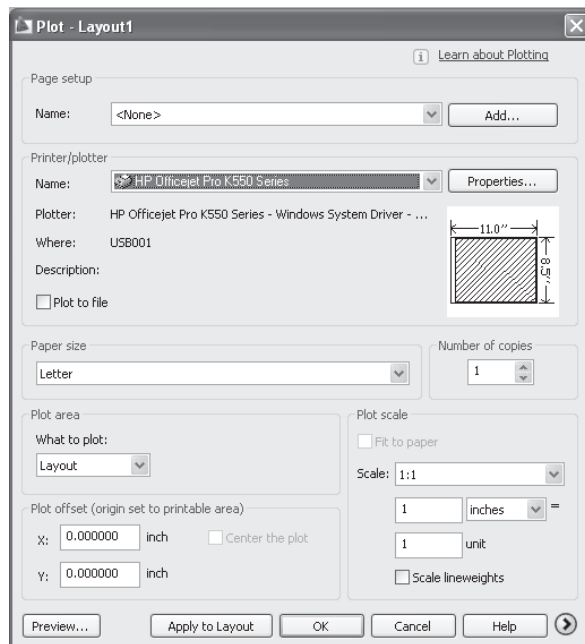

Figure 12.4
3. Click the More Options button in the lower-right corner of the dialog box. It's the round button with the right-pointing arrow (see Figure 12.4).